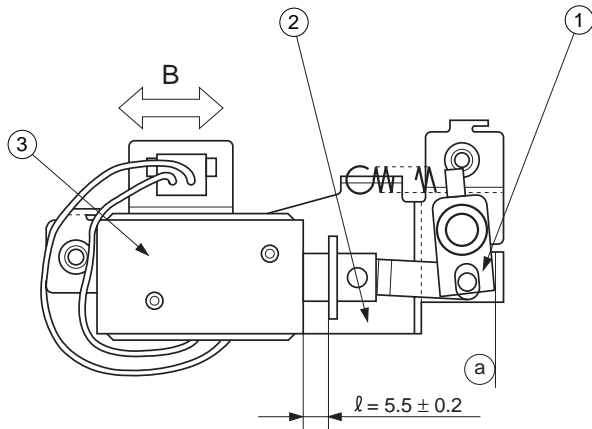

Figure 4-507
Loosen the two screws used to fix the solenoid ③ in place and move the solenoid ③ in the direction of arrow B so that the distance l in Figure 4-507 is 5.5 ± 0.2 mm when the joint ① is butted against ② of the solenoid support plate ②.